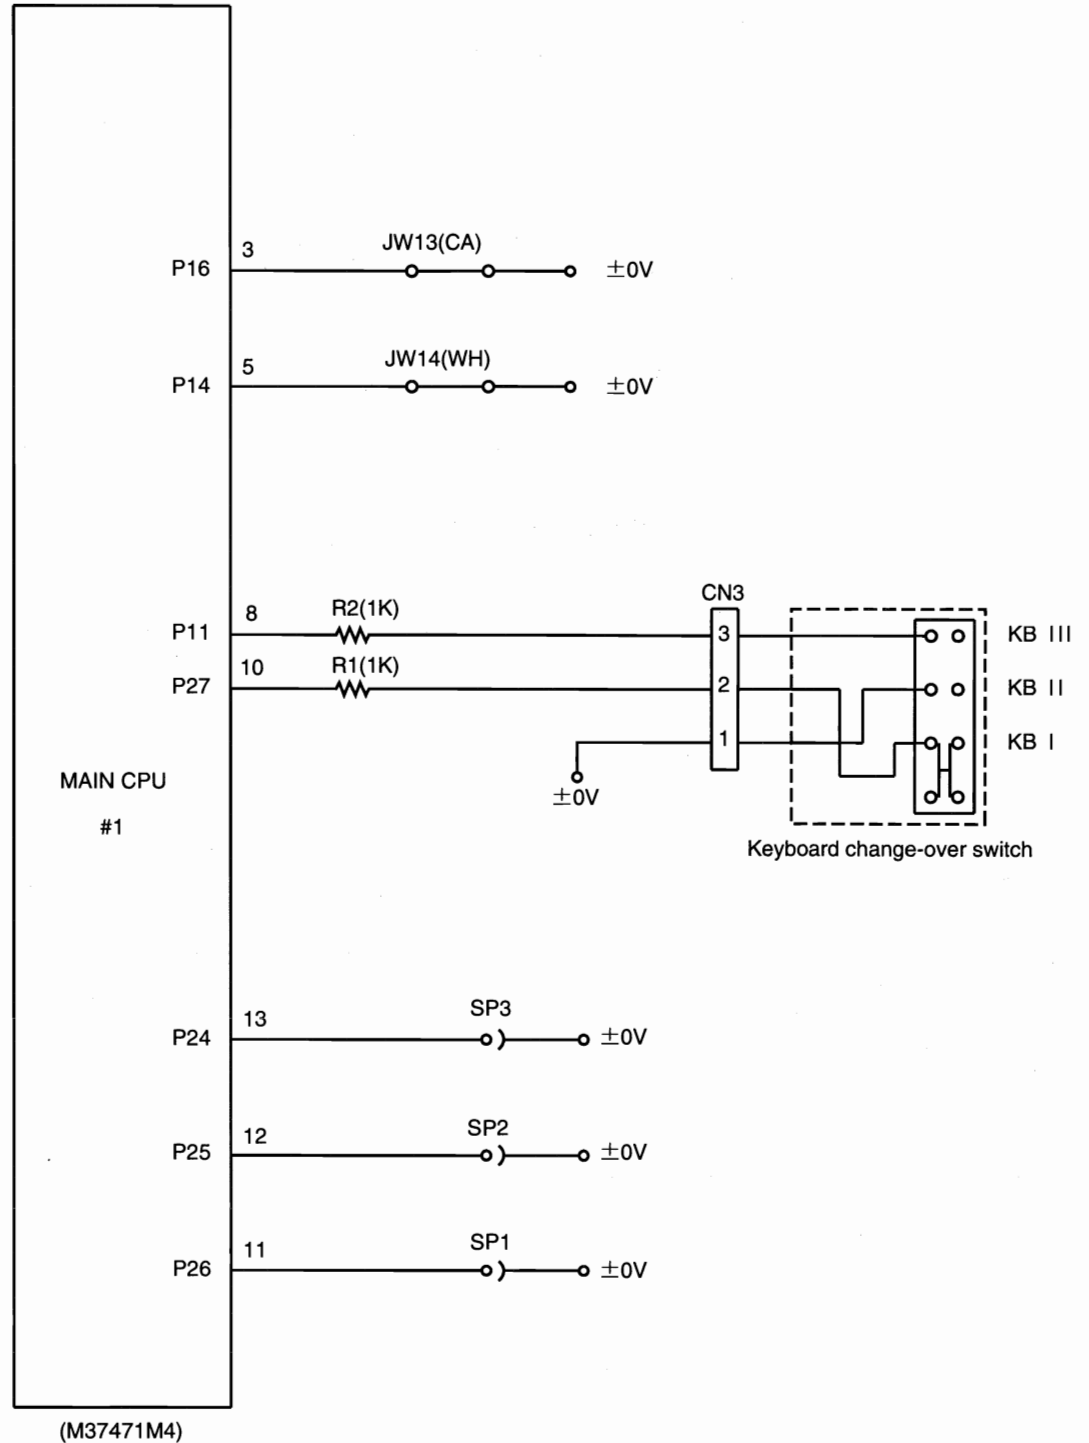

Fig. 1.27 Specification Switcher Circuit
Fig. 1.27 shows the specification switcher circuit. The solder points SP1 through SP3 and the keyboard change-over switches used to alter country specifications. Close JW13 (CA) and JW14 (WH), which are normally opened, expand the motor power limits.